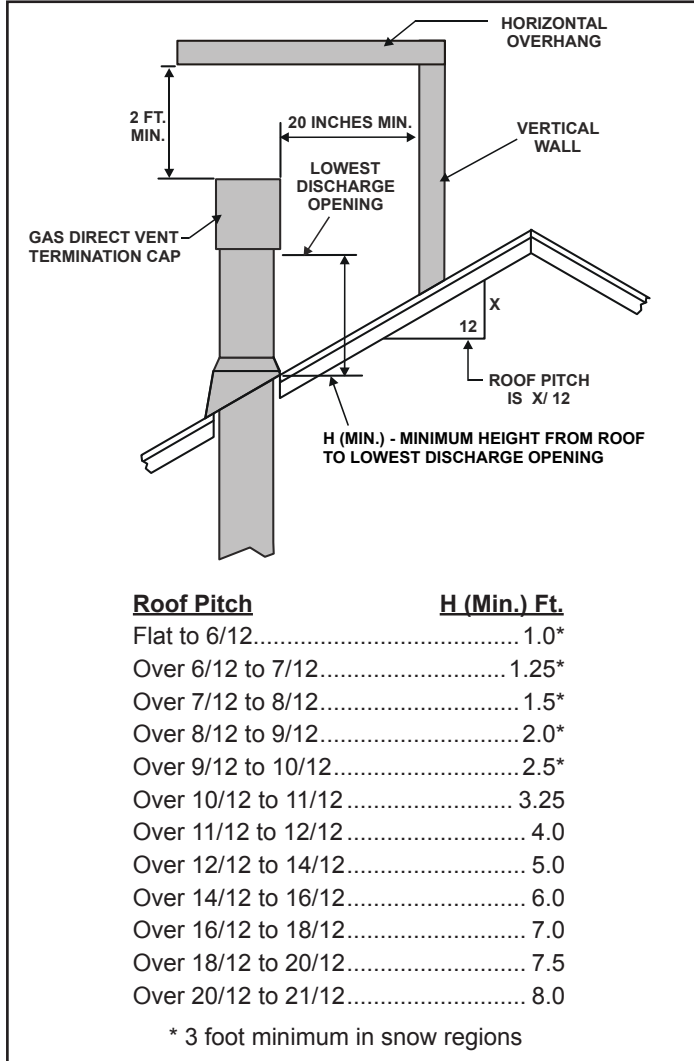

Figure 7.11 - Minimum Height From Roof To Lowest Discharge opening
- See minimum vent heights for various pitched roofs (Figure 7.11) to determine the length of pipe to extend through the roof.